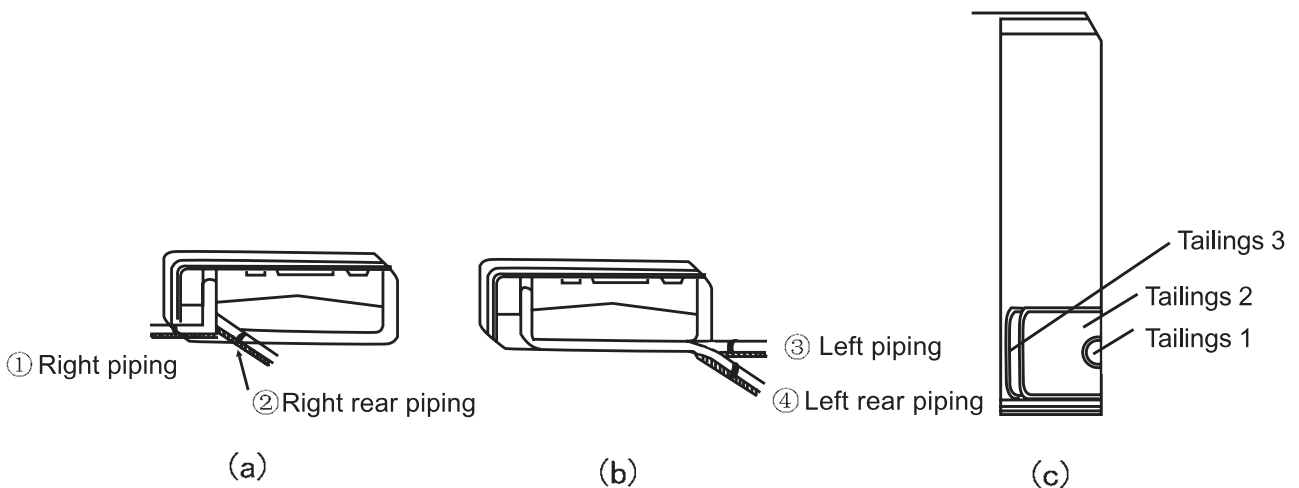

Fig. 4
1. When routing the piping and wiring from the left or right side of the indoor unit, cut off the tailings from the chassis in necessary (shown in Fig.4, (a), (b) and (c)).
- (1) Cut off the tailings 1 when routing the wiring only.
- (2) Cut off the tailings 1 and tailings 2 (or tailings 1, tailings 2 and tailings 3) when routing both the wiring and piping.
①, ② and ③ in Fig. 4 are the recommended piping.